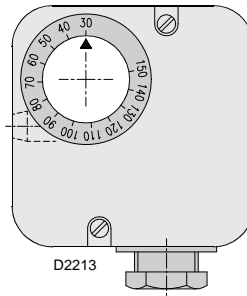

Fig. 20
- adjust the maximum gas pressure switch (Fig. 20), on the butterfly valve, at the end of the scale;